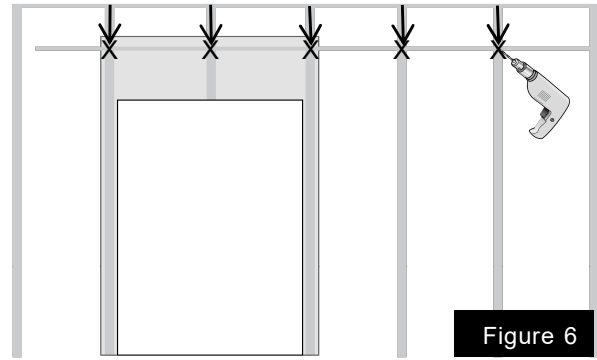

Figure 6
- Pre-drill 5 pilot holes of 2-3/16" depth with 7/32" drill bit (Figure 6).